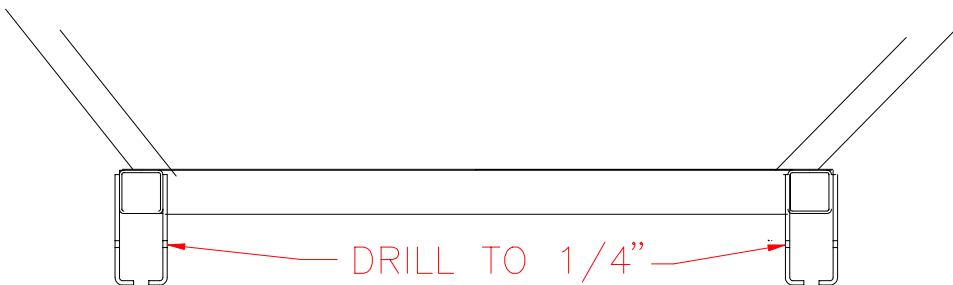

Figure 22.2.1
- 1) In the Seat Base SA-19, drill out the eight tabs to 1/4". Figure 22.2.1.